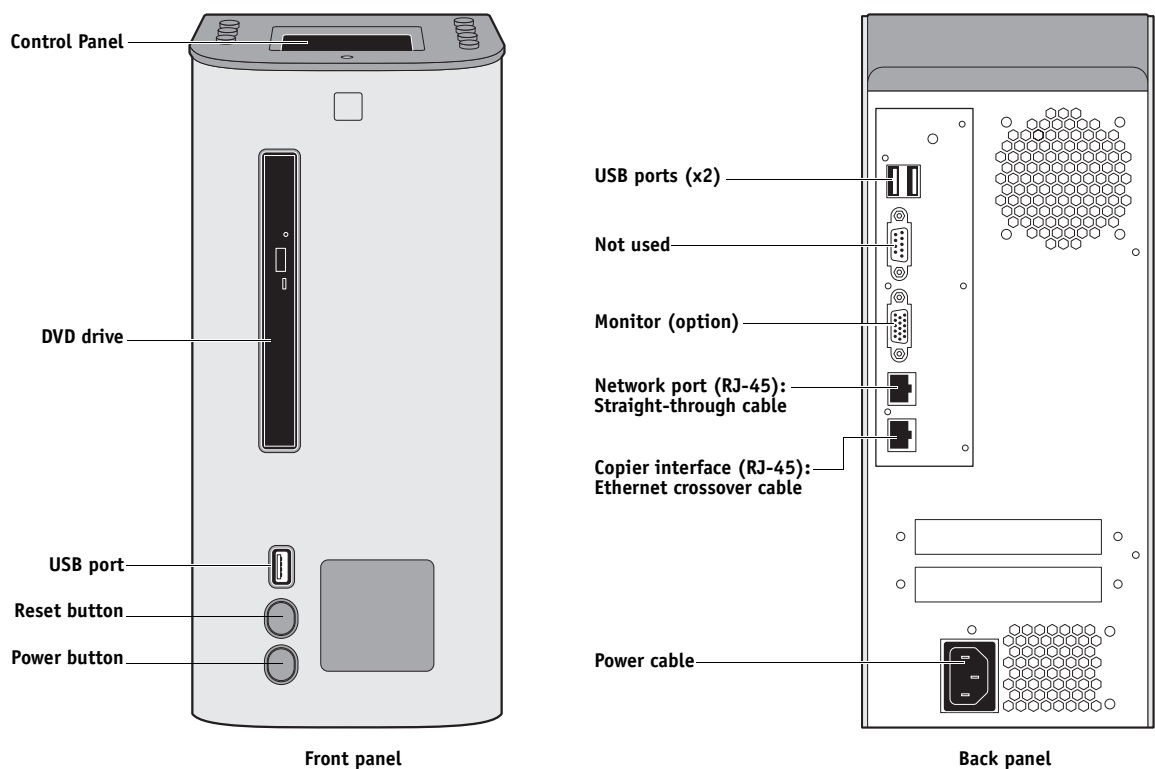

FIGURE 5: EB-1357 connections
1. Connect the female end of the EB-1357 power cable to the power connector on the back of the EB-1357 (see Figure 5 on page 28).
NOTE: The copier interface cable included with the EB-1357 is a 16.4 ft. Ethernet *crossover* cable that connects to the **lower** RJ-45 port on the EB-1357 back panel. The network cable at the customer site is a *straight-through* Ethernet cable that connects to the **upper** RJ-45 port on the EB-1357 back panel. The cables look similar, but are not interchangeable. Make sure that you connect the cables to the correct ports (see Figure 5 on page 28).
NOTE: Be sure to use a *straight-through* Ethernet cable for the network connection. It connects to the **upper** RJ-45 port on the EB-1357 back panel. The copier interface cable included with the EB-1357 is a 16.4 ft. Ethernet *crossover* cable that connects to the **lower** RJ-45 port on the EB-1357 back panel. The cables look similar, but are not interchangeable. Make sure that you connect the cables to the correct ports (see Figure 5 on page 28).
1. **Power on the EB-1357 using the power button on the front panel (see Figure 5 on page 28).**